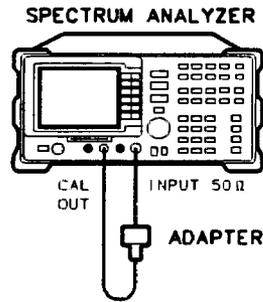

Figure 3-21. Displayed Average Noise Level Test Setup
1. Connect a cable from the CAL OUT to the INPUT 50Ω of the analyzer as shown in Figure 3-21. *Option 001*: Use a 75 Ω cable and omit the adapter.